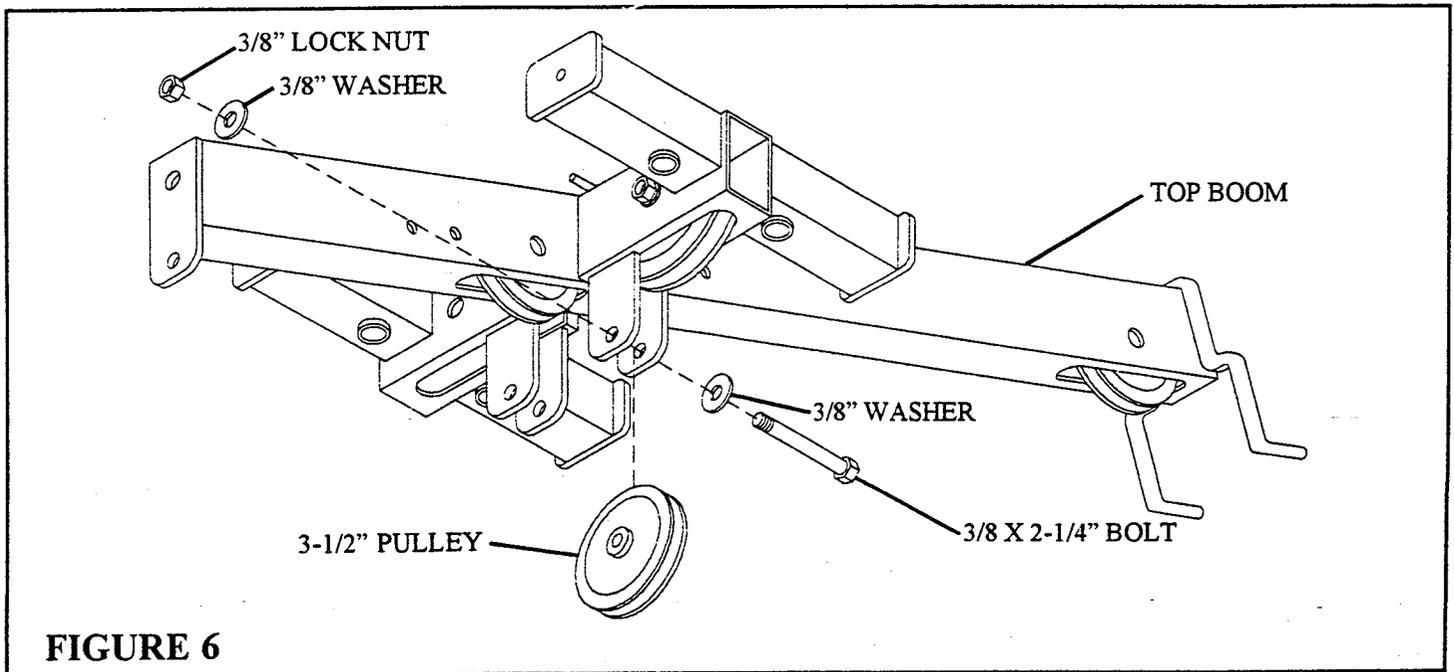

**FIGURE 5**
- Carefully remove and discard the PRESS CABLE as shown in FIGURE 5.